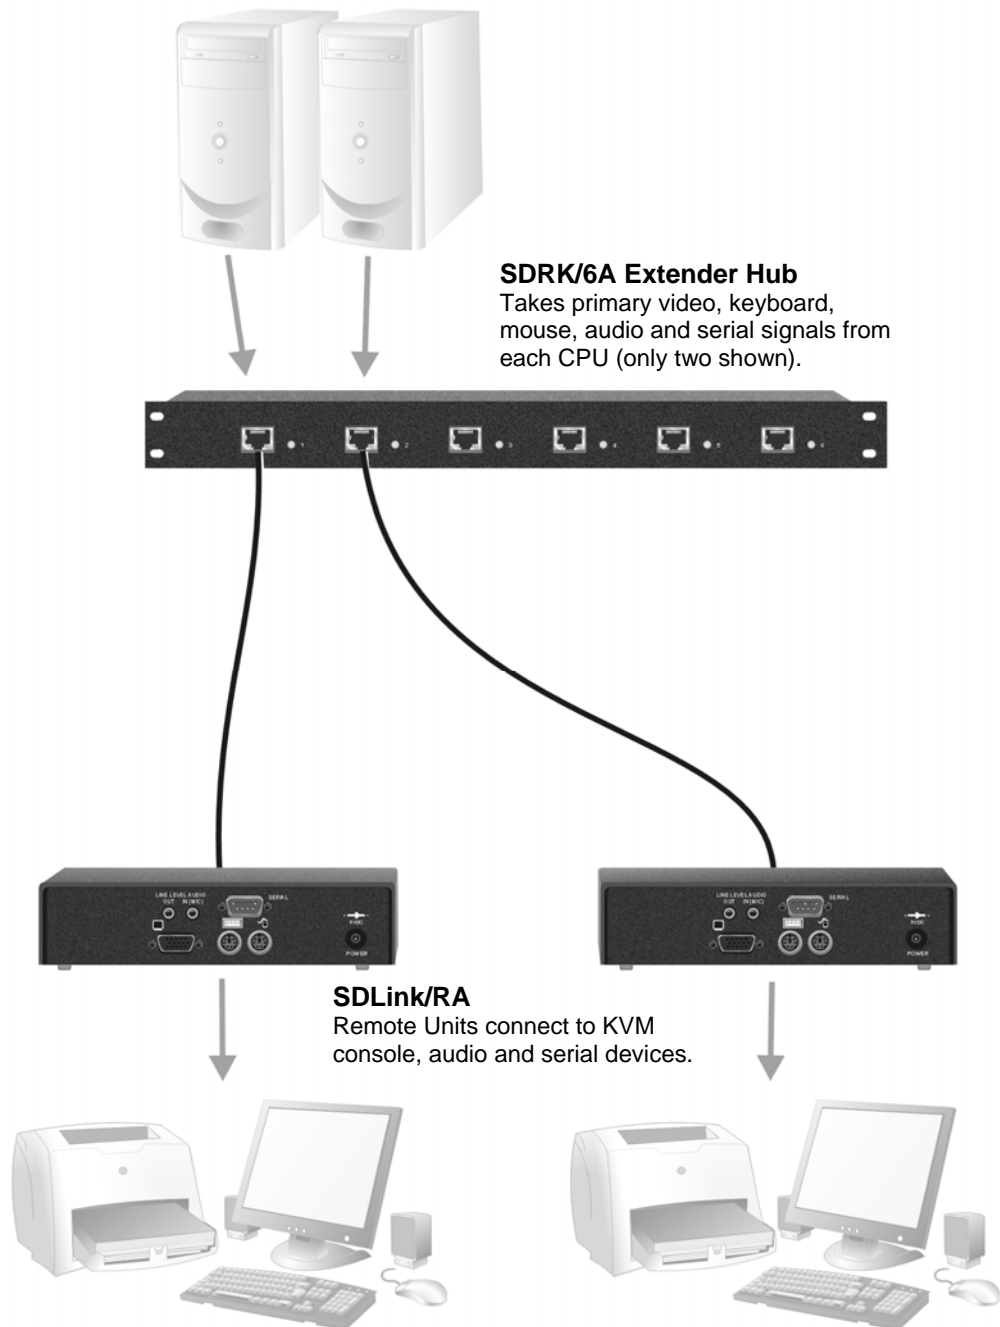

Figure 6 Serial and audio extension for up to six CPUs
- Simple system using SDRK/6A Hub and SDLink/RA Remote Units to extend audio, serial and KVM for up to six PCs (Figure 6).